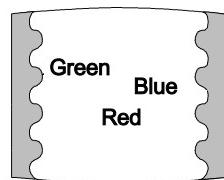

Fig.3-4
- Move the deflection yoke backwards and adjust with the purity magnet so that the green is at the center and it aligns symmetrically. (See Fig. 3-4)